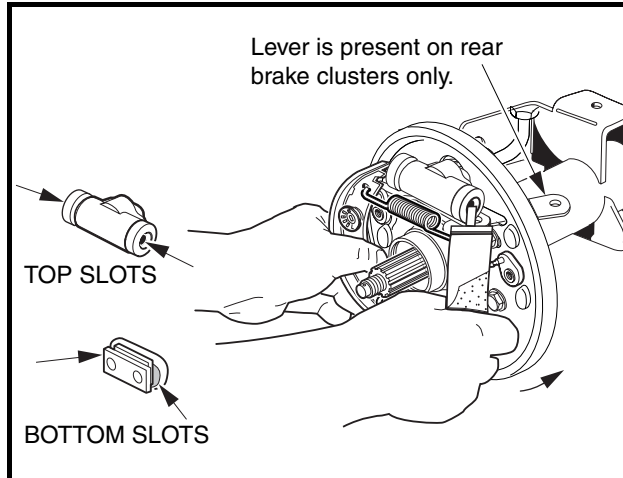

Figure 6-12 Brake Shoe Installation
4. Position the bottom tip of the remaining shoe into the mounting block and the top tip into the slot in the wheel cylinder piston. Attach the free ends of the tensioning springs to the loose shoe and push the shoe into place (**Figure 6-12, Page 6-13**).